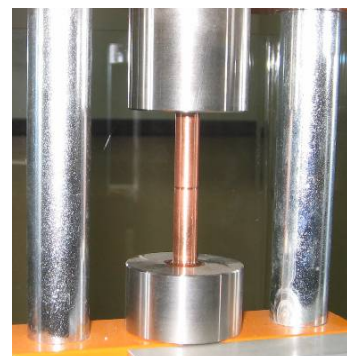

Fig. 5.8: The specimen is fixed on the holder.
3. Place the specimen in the compression test piece holders. Make sure that the specimen is centered as shown in Fig. 5.8.